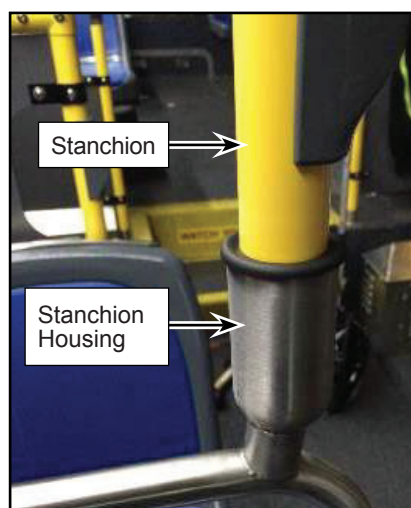

Figure 20 - Typical View of Stanchion Housing
2.10.6. Insert stanchion onto top insert housing of the seat (see Figure 20).